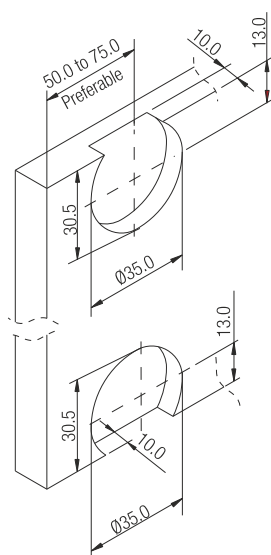

Fig.1
1. Use Ø35 mm cutter to make cavities on the inside of shutter as shown in Fig.1